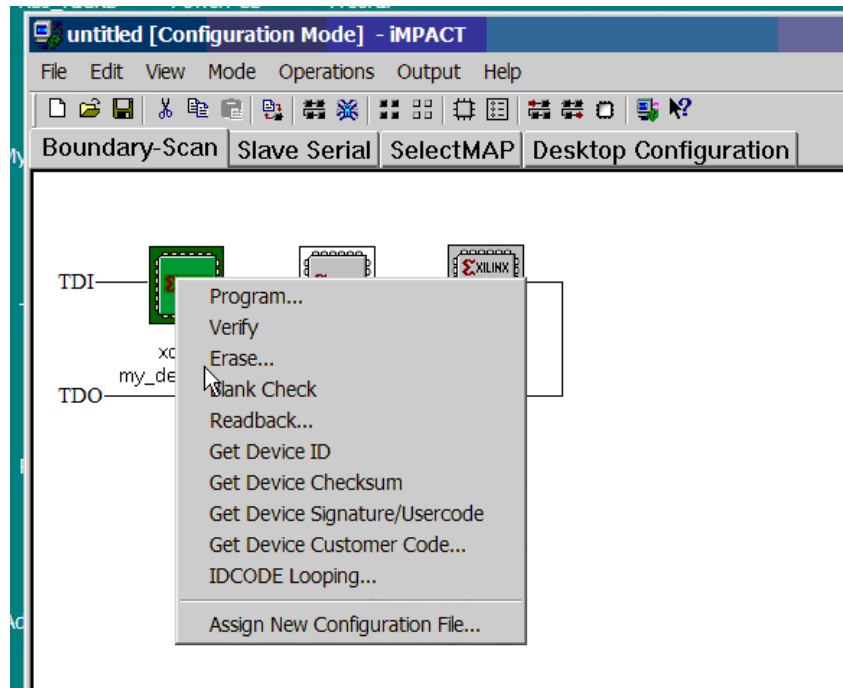

Figure B-13: Programming the PROM
19. Right mouse click on the icon for the XCF32P PROM and select Program from the drop down menu as shown in Figure B-13.